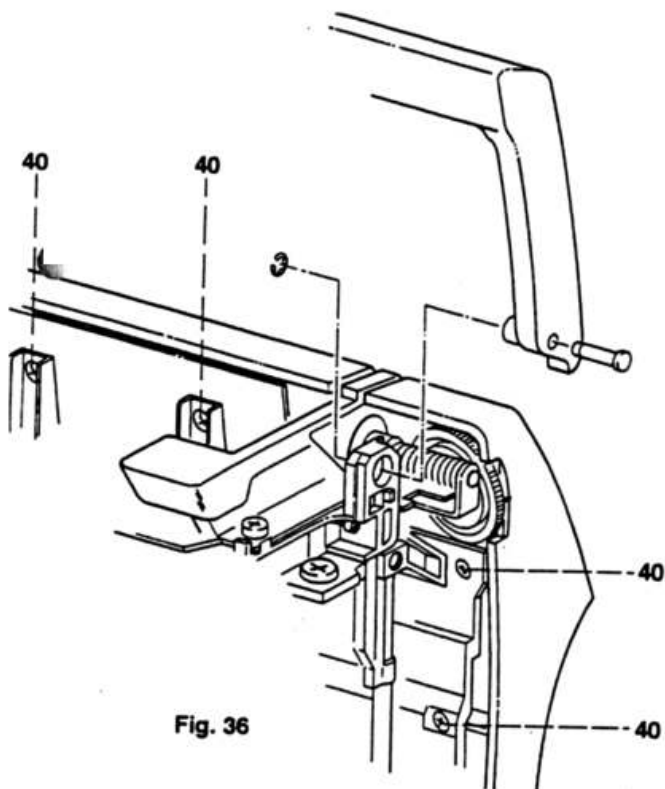

Fig. 36
- Remove the circlip of the retaining pin (fig. 36).
- Unscrew the five screws 40 (fig. 36).